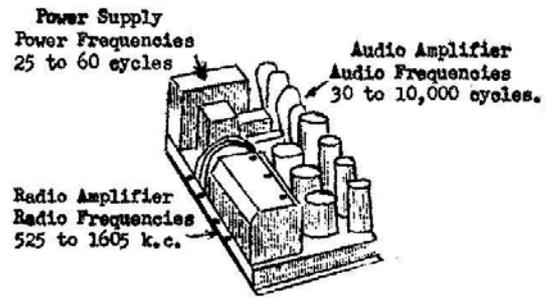

FIGURE 6.
Condensers are used in three different portions of a radio receiver, as follows:- (1) in the radio frequency amplifier, (2) in the audio frequency amplifier, and (3) in the power supply parts. In those three portions of the set we are handling three classes of frequencies. In the radio amplifier we are handling (1) high frequencies or radio frequencies measured in kilocycles. In the audio amplifier we are handling (2) lower frequencies or audio frequencies measured in cycles. In the power units we are handling (3) very low frequencies or power frequencies also measured in cycles. Three parts of a receiver are indicated in Figure 6.